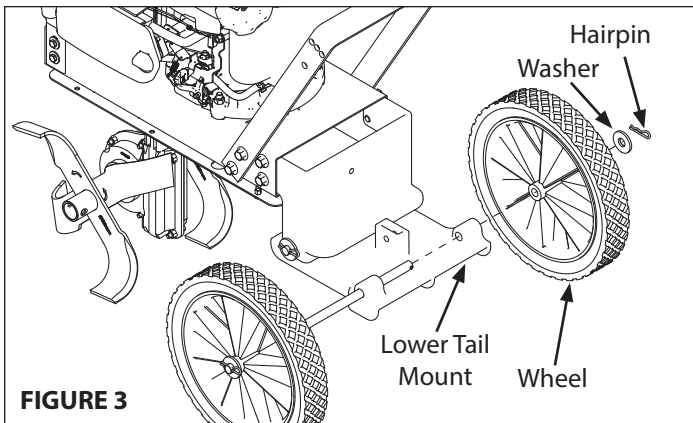

FIGURE 3
- Assemble axle to lower tail mount. Install wheels on each end of axle; install 12 MM washers onto axle against wheels; insert hairpins into holes in axle to keep washers and wheels in place. **SEE FIGURE 3**